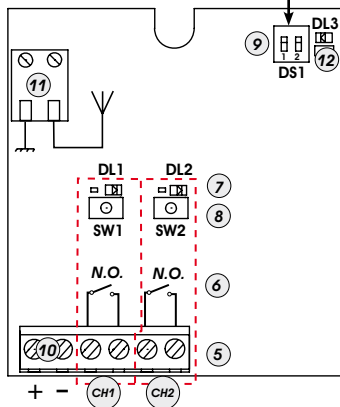

Fig.1
- 2) Press for 1 second the push-button on the receiver (Fig. 1 ref. ⑧) relating to the channel you wish to associate with the radio control.
- 3) The relevant LED on the receiver (Fig. 1 ref. ⑦) begins to flash slowly for 5 secs.
- 5) The relevant LED (Fig. 1 ref. ⑦) lights up on steady beam for 1 second and then goes OFF, indicating that storage was executed.